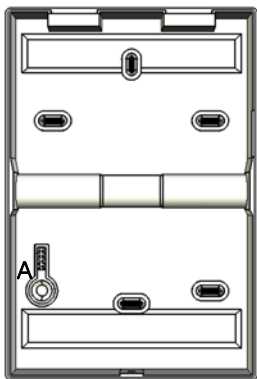

Figure 4: MD-W11 Back Cover
1. Use the spline key to remove the case security screw from the back of the unit, as shown in Figure 4.
We highly recommend to use the bottom left mounting hole, as it used for the purpose of back tamper when a person attempts to dislodge the unit from the wall. See Figure 4: MD-W11 Back Cover marked with **A**.